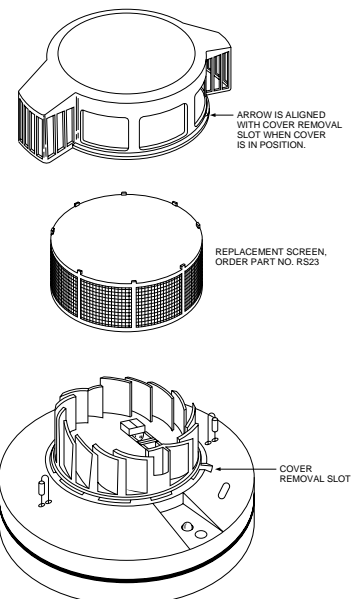

Figure 8. Removal of Cover and Screen for Cleaning
2. Remove the screen by pulling it straight out (see Figure 8). Vacuum the screen thoroughly.